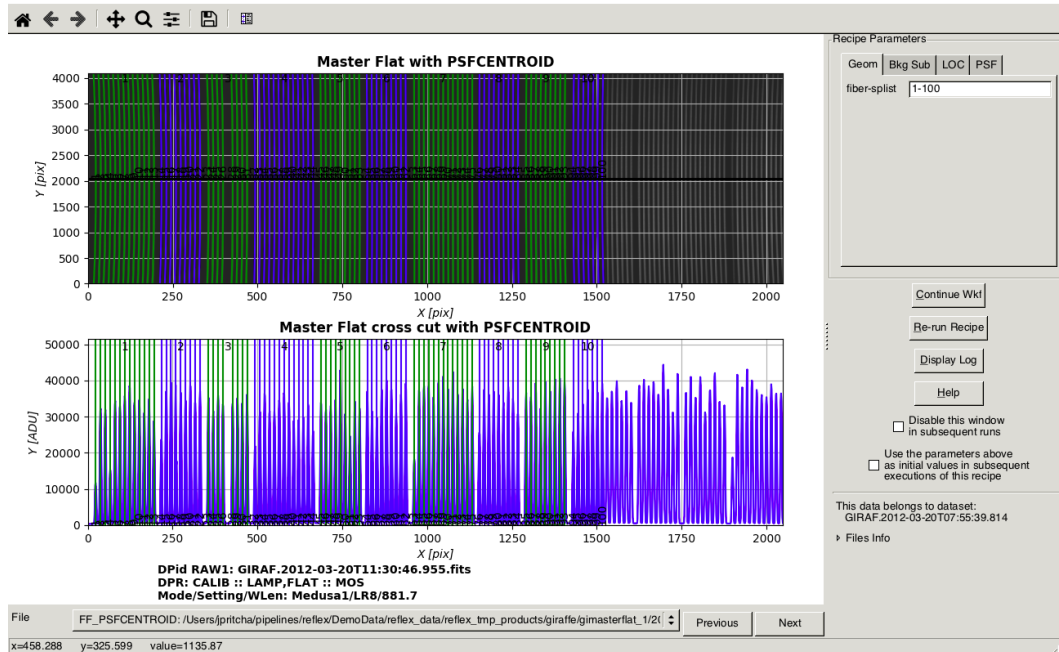

Figure 4.7: The MasterFlat Interactive GUI for the first dataset, after re-running the recipe with *fiber-splint* set to '1-100'.
- Adjust recipe parameters:** Let's begin with something simple, but clear. In the `fiber-splint` field, replace the text 'setup' with '1-100'. Then click the `Re-run Recipe` button. The GUI window will close and the workflow will re-run the MasterFlat recipe. Eventually the GUI window will re-open, but only the first 100 fibres will now be traced, see figure 4.7.